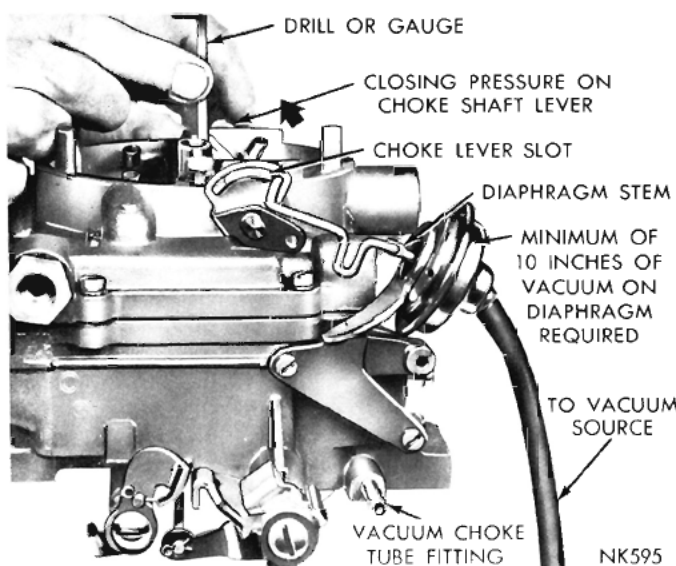

Fig. 14—Measuring the Choke Vacuum Kick Setting
phragm and connect the hose from the vacuum supply, as shown in (Fig. 14). (A minimum of 10 inches of mercury (HG) will be required.)
(3) Insert the specified drill between the choke valve and the wall of the air horn. Refer to (Fig. 14). Apply sufficient closing pressure on the choke shaft lever to provide the smallest choke valve opening possible without distortion of the diaphragm link. Note that the cylindrical stem of the diaphragm will extend as an internal spring is compressed. The spring must be fully compressed for proper measurement of the kick adjustment.
(4) An adjustment will be necessary if a slight drag is not obtained as the drill or gauge is being removed.
(7) Install the choke operating link and recheck the choke valve opening, using a drill or gauge. Refer to (Fig. 14).